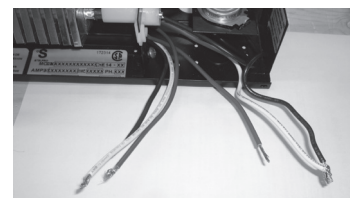

FIG. 7
6. Connect the 3 control wires according to the schematic provided with the relay. (FIG.7)
7. The red wire coming from the black relay wire (power side) will connect to line feed (L2 or N). The red wire coming from the white relay wire (power side) will connect to the line feed (L1) and thermal protection. (Fig 7)